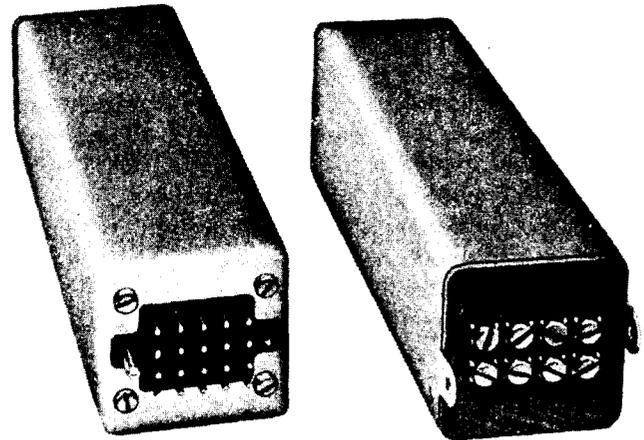

Fig. 1—359K Equalizer
2.01 The 359K equalizer (see Fig. 1) is a plug-in unit equipped with a 20-pin connector plug and is designed to be plugged directly into the equalizer connector socket of the repeater mounting shelf.